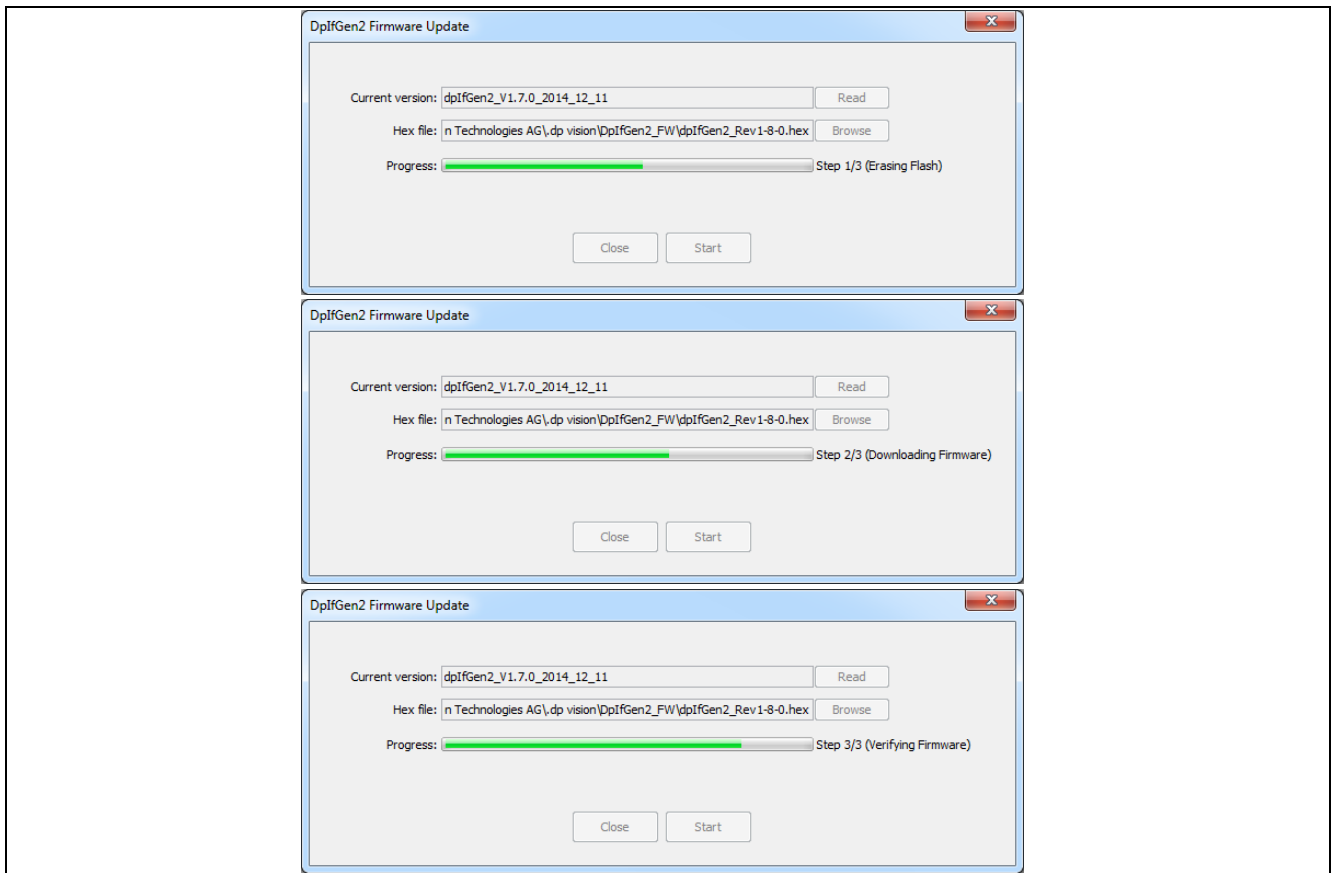
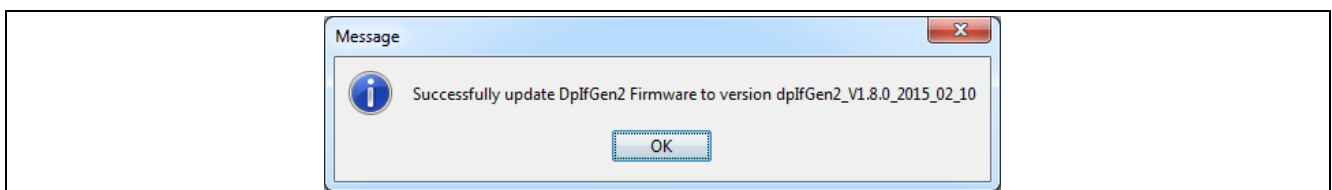

Figure 40 DpIfGen2 Firmware Update – Firmware Downloading Process
Figure 41 DpIfGen2 Firmware Update – Successful Update Message
4. Firmware downloading is performed in four steps (Starting Bootloader, Erasing Flash, Downloading Firmware and Verifying Firmware) as shown in Figure 40. During this process the “DP2x Sync” LED starts flashing. After successful downloading, a corresponding information window will appear (see Figure 41).